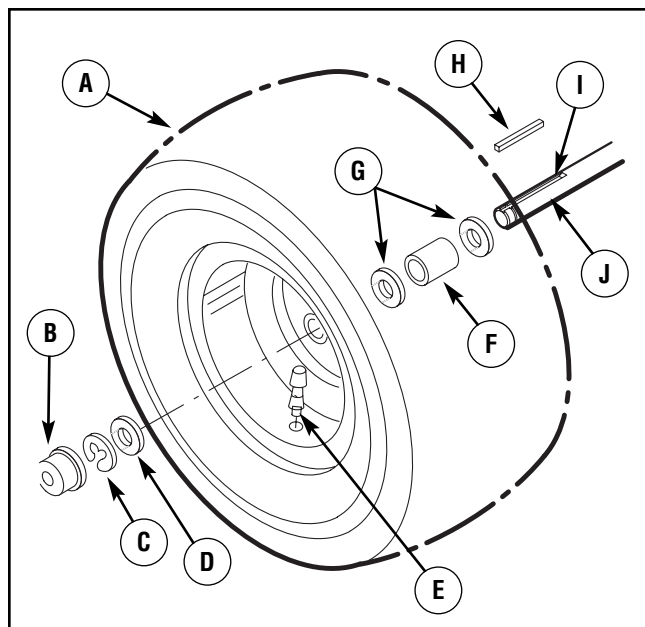

Figure 45: Rear wheel assembly
1. Install the **washers** and **spacer** onto the **axle** as shown in Figure 45.
2. Mount the **square key** in the **key slot** (See Figure 45).